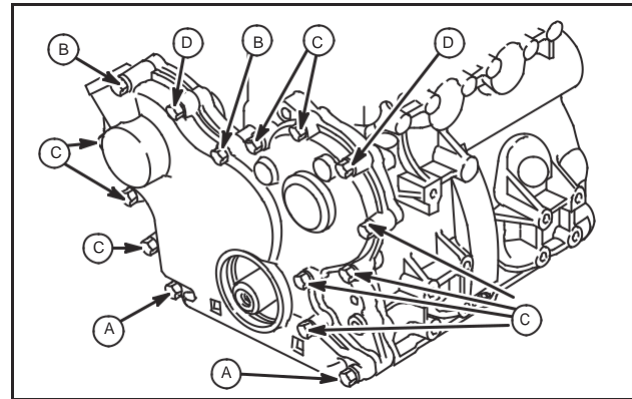

Fig. 18 – Installing Timing Cover
9. Install timing gear cover with new gasket. Note position, length and number of screws as shown, Fig. 18.